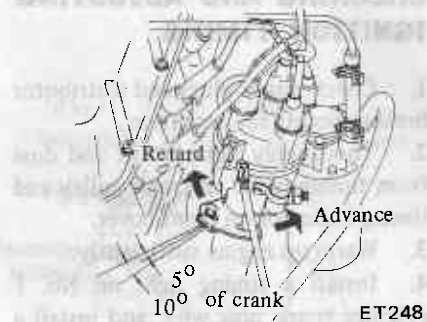

Fig. ET-9 Adjusting ignition timing
- (1) Loosen setscrew until distributor can be moved by hand. See Figure ET-9.
- (2) Adjust ignition timing to the following specifications.
- (3) Lock distributor setscrew, and make sure that timing is correct.